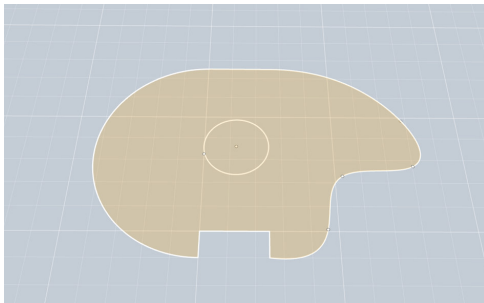

Figure 4-92 Start the extrusion process
1. Start with a sketch (Figure 4-92).